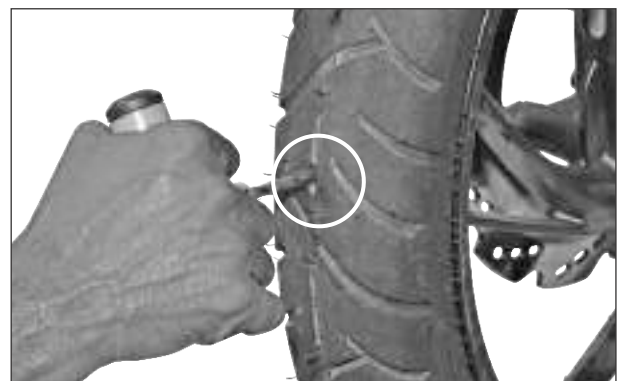

Fig. 6.98
- Insert the reaming tool exactly into the punctured point and carefully ream the punctured hole. (Fig. 6.98)